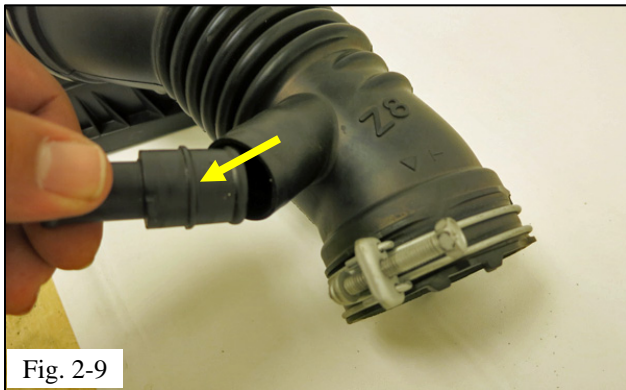

Fig. 2-9
- (i) On a workbench, remove the plastic PCV connector barb from the OE coupler (Fig. 2-9). Keep the PCV connector for reuse.